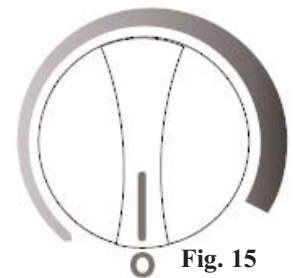

Fig. 15
- To turn off the freezer (no cooling), rotate the control knob to the “0”(off) position. See Fig.15.